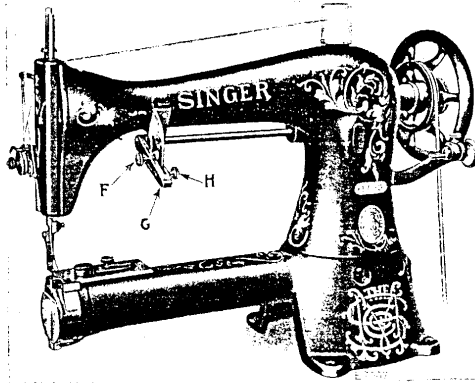

FIG. 12. MACHINE 17-30
Machines 17-30 and 17-41 can be adjusted to feed the work forward or backward, as desired, by loosening the thumb screw (H, Fig. 12) and moving the lever (G, Fig. 12) up or down in the bracket at the front of the machine.
Loosen the thumb screw (F, Fig. 12) in the slotted lever (G, Fig. 12) and move it forward or backward until the desired length of stitch is obtained, then securely tighten the thumb screw (F).